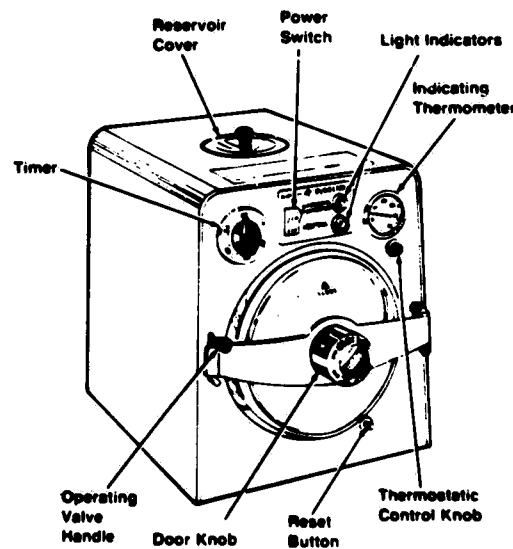

Figure 3. Controls.
b. **To close** — Push door and hinge so that right edge of door enters nose of shell before left edge. Then push door forward and to the left. Lock door by turning doorknob clockwise until it stops (Fig. 3).
3. OPERATION (Refer to Fig. 3)